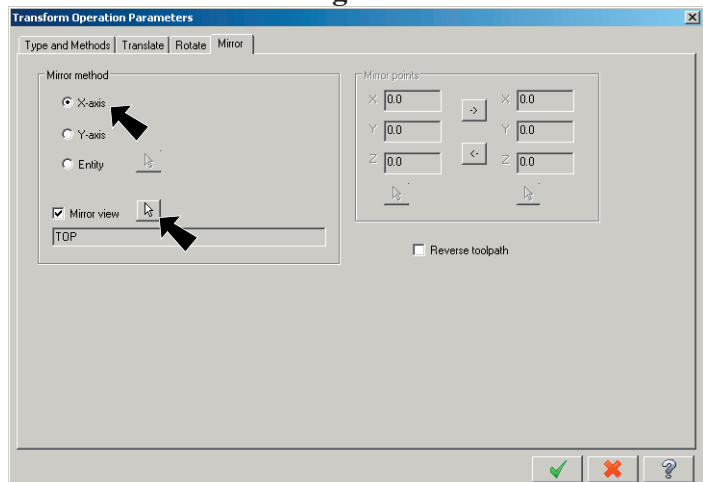

Fig. 101
Step 8. Under Mirror method, select **X-axis**, **Fig. 101**.
Step 9. Select the Mirror view **Select entity** button , **Fig. 101**.